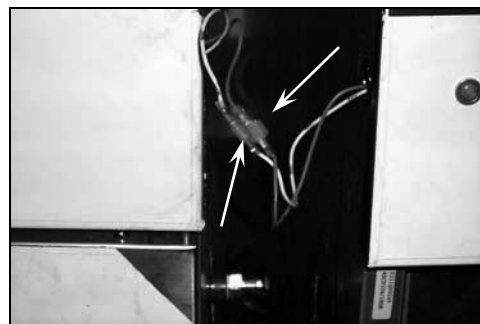

Figure 3. Wires connecting oil return switches.
4. Position the cabinets within 6 inches of each other, close to the area where they will be installed. Do not push the cabinets together at this time. Connect the wires exiting the cabinets to be joined (Fig. 3). The 1824G oil-return switches will not work if these wires are not connected.